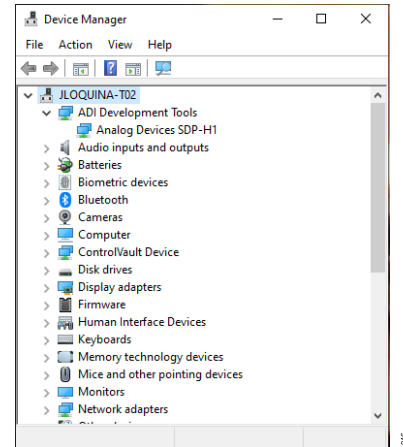

Figure 16. Device Manager Window
4. If the SDP-H1 driver software is installed and the board is connected to the PC properly, then in the **Device Manager** window, **Analog Devices SDP-H1** appears under **ADI Development Tools**, as shown in Figure 16.